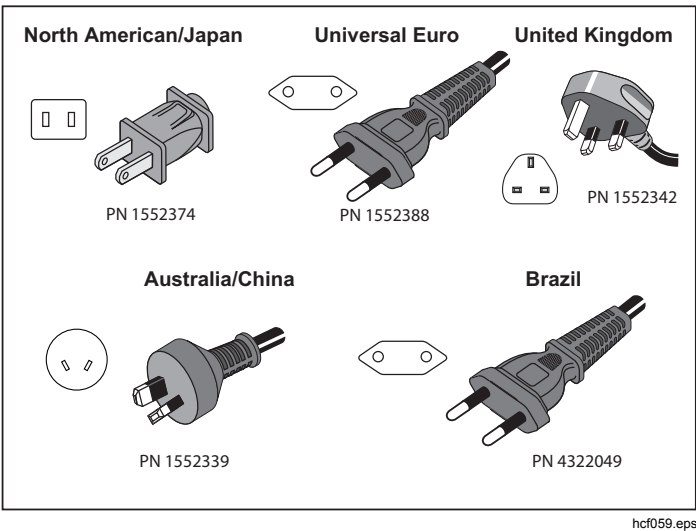

Figure 1. Country-Specific Mains Cords
- Power Cord (see Figure 1)
The power cord and input connector decal are country-specific and vary according to the order destination. See Figure 1.